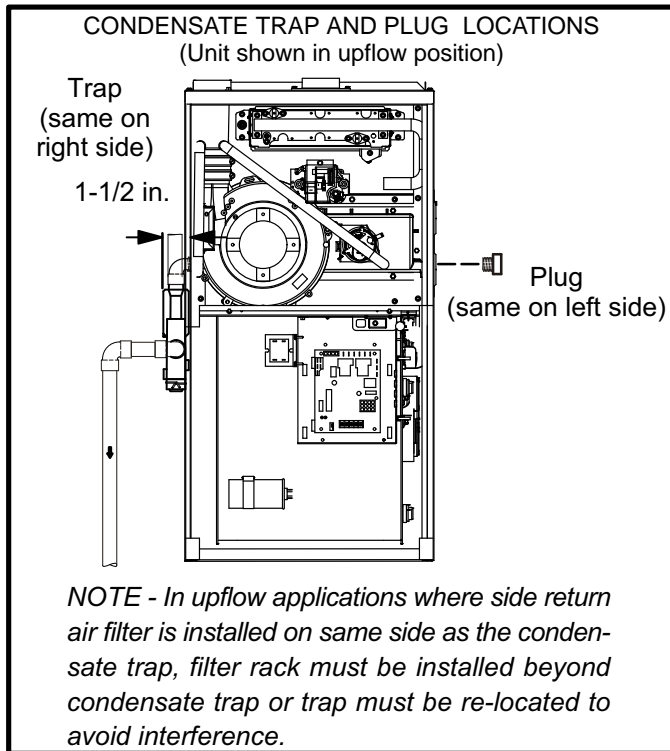

FIGURE 44
This unit is designed for either right- or left-side exit of condensate piping in upflow applications. In horizontal applications, the condensate trap must extend below the unit. An 8" service clearance is required for the condensate trap. Refer to figures 44 and 46 for condensate trap locations. Figure 52 shows trap assembly using 1/2" PVC or 3/4" PVC.
- 2 - For furnaces with a 1/2" drain connection use a 3/8 allen wrench and remove plug (figure 44) from the cold end header box at the appropriate location on the side of the unit. Install field-provided 1/2 NPT male fitting into cold end header box. For furnaces with a 3/4" drain connection use a large flat head screw driver or a 1/2" drive socket extension and remove plug. Install provided 3/4 NPT street elbow fitting into cold end header box. Use Teflon tape or appropriate pipe dope.